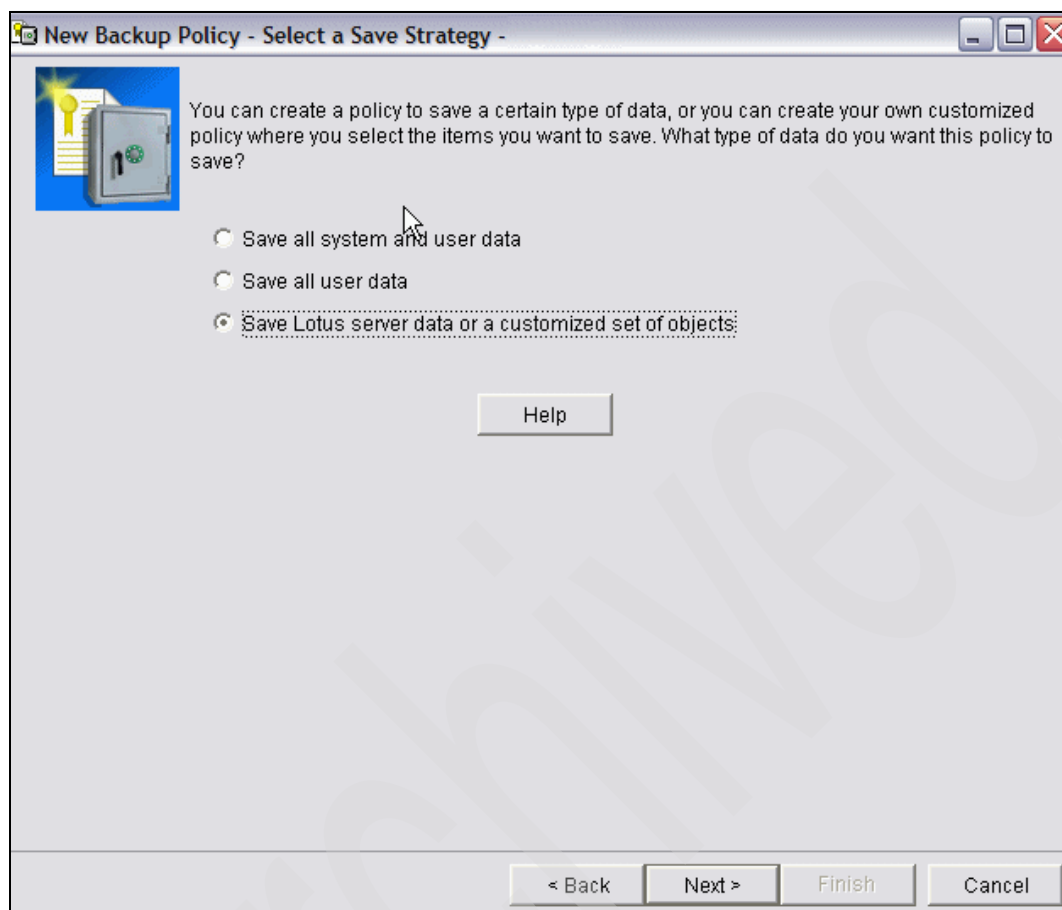

Figure 7-15 Select a save strategy
2. In the Select a Save Strategy window shown in Figure 7-15 on page 347, there are three selections: